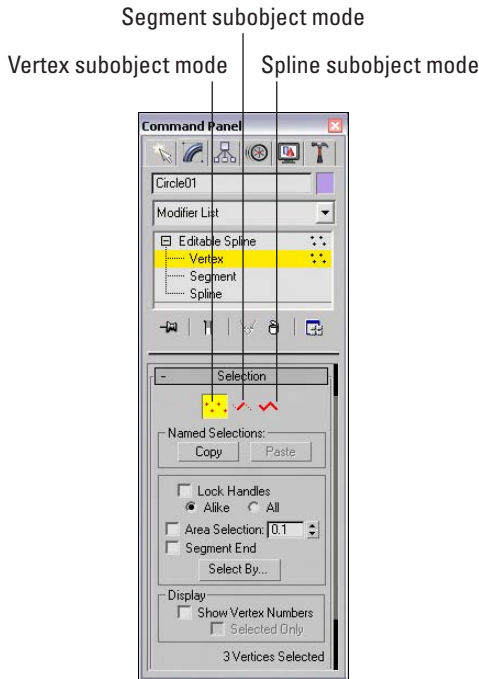

Figure 13-15: The Selection rollout provides icons for entering the various subobject modes.
When editing splines, you must choose the subobject level to work on. For example, when editing splines, you can work with Vertex (1), Segment (2), or Spline (3) subobjects. Before you can edit spline subobjects, you must select them. To select the subobject type, click the small plus sign icon to the left of the Editable Spline object in the Modifier Stack. This lists all the subobjects available for this object. Click the subobject in the Modifier Stack to select it. Alternatively, you can click the red-colored icons under the Selection rollout, shown in Figure 13-15. You can also select the different subobject modes using the 1, 2, and 3 keyboard shortcuts. When you select a subobject, the selection in the Modifier Stack and the associated icon in the Selection rollout turn yellow.